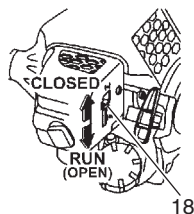

Fig. 13
2. Set choke lever (18) to CLOSED position. (Fig. 13)